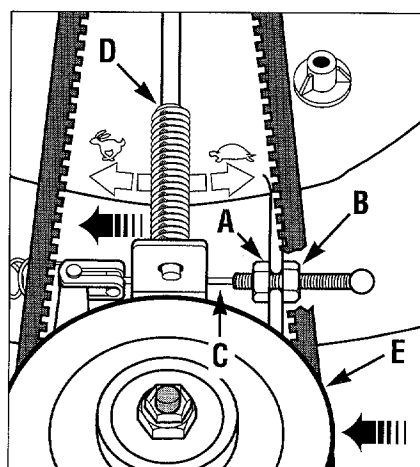

Figure 5-2: Manual wheel speed adjustment to **FASTER** speed.
F. To increase the wheel speed, loosen the outer locknut (**B**, Figure 5-2), while pushing both the pulley (**E**) and adjustment rod spring (**D**) toward the rabbit symbol. Hold the spring and pulley in the new position.
G. Keep the wire (**C**) in the cable taut and re-tighten the two locknuts (**A** and **B**). See Figure 5-2.